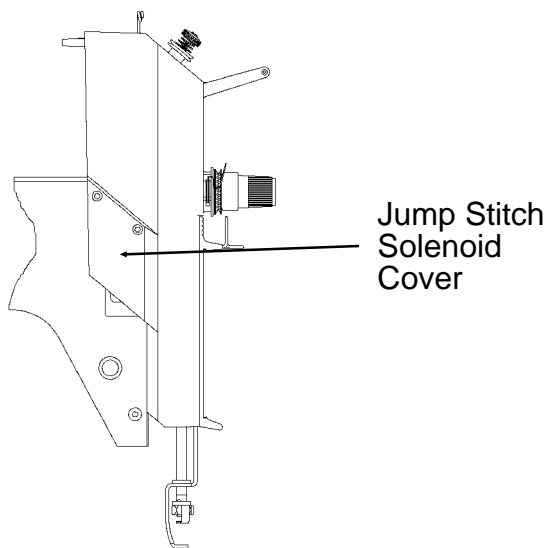

Figure 2
- A. For the EMC 1, remove the two Retaining Screws holding the Jump Stitch Solenoid Cover on the head and remove the Cover (See Figure 2).